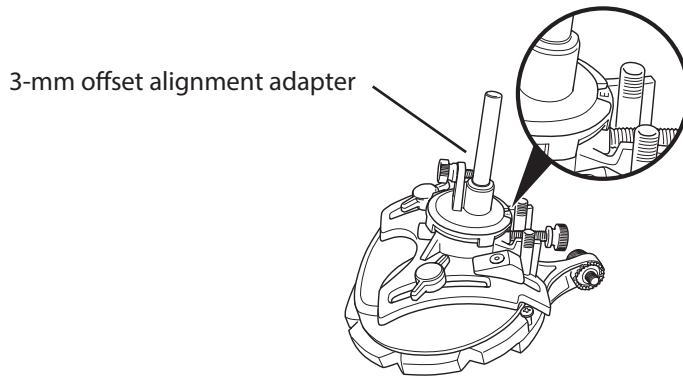

Figure 19. Insert the 3-mm offset alignment adapter and adjust.
2. Insert the 3-mm offset alignment adapter in the desired direction to adjust the entry point. Note which letter of the anatomy alignment ring shows in the 3mm offset alignment adapter window (Figure 19).